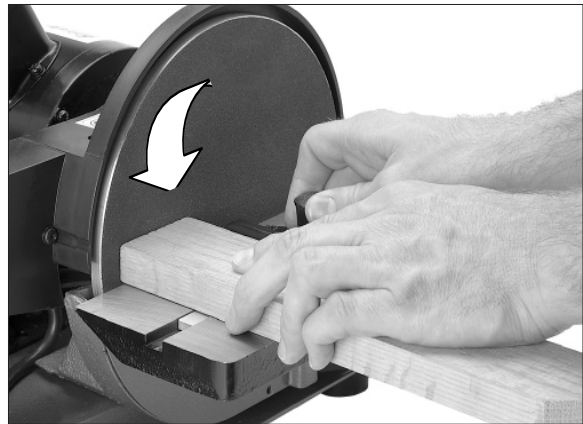

Fig.24
5. Slowly, and with light pressure, move the workpiece into the left side of the sanding disc. See Figures 24 thru 26 for examples of disc sanding.